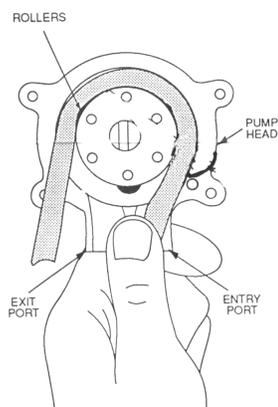

Figure 1. TUBING START POSITION
3. Separate the pump halves. Hold the pump head as shown in Figure 1, with the rollers in the 2, 6, and 10 o'clock positions.
4. Wrap the tubing around the rollers as shown in Figure 1.